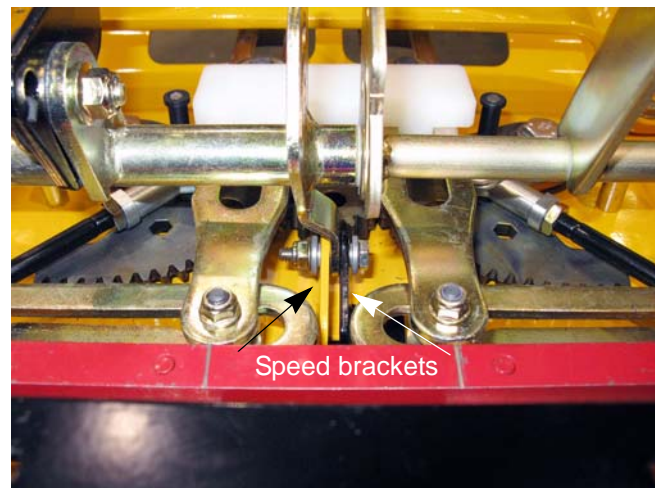

Figure 4.42
11. Remove the nut, bolt and shoulder spacers that attach the speed brackets to the control pedal shaft using a pair of 7/16" wrenches. See Figure 4.42.